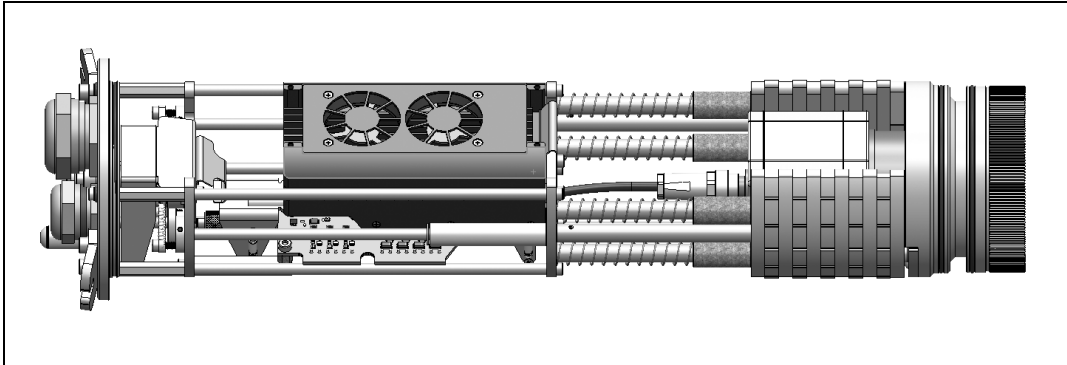

Figure 45: Chassis with TIM camera, Industrial PIF and TIM NetBox
7. Then connect the TIM camera and the TIM NetBox with the provided USB cable and the Industrial PIF with the camera. Combine the network connector and the TIM NetBox (**Figure 45**).